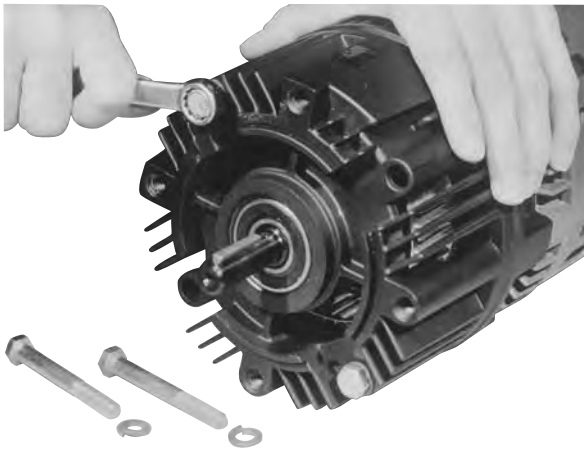

Figure 5
2. Bolt the modules together with the long hex head bolts that are provided, see figure 5. Mating pilot diameters assure proper alignment between module assemblies.